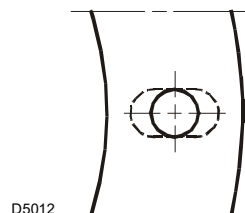

Fig. 8
- If necessary, widen the insulating gasket holes (Fig. 8), taking care not to damage them.